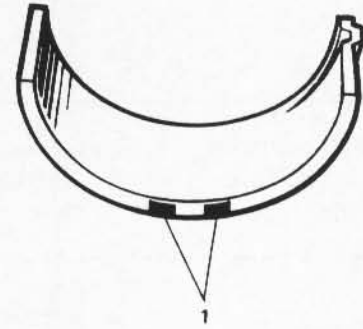

Fig. 3-5-48 Paints on undersize bearing
- 0.25 mm undersize bearing is available in 5 kinds differing in thickness. To distinguish them, each bearing is painted in following colors at position indicated in Fig. 3-5-48. Each color indicates following thickness at center of bearing.